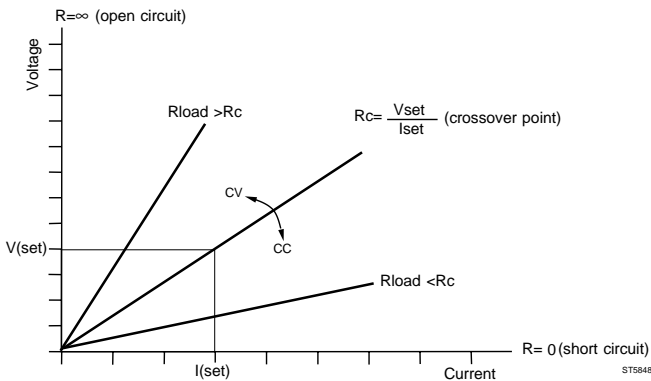

Figure 5.5.7 Power Output Crossover Point
- If R_{load} increases from 8Ω to 16Ω, then $R_{load} > R_c$, so the output channel goes into the CV mode (refer to figure 5.5.7). This means that $V_{load} = 8V$ and I_{load} becomes $8V/16\Omega = 0.5A$.
- If R_{load} decreases from 8Ω to 4Ω, then $R_{load} < R_c$, so the output channel goes into the CC mode (refer to figure 5.5.7). This means that $I_{load} = 1A$ and V_{load} becomes $1A \times 4\Omega = 4V$.